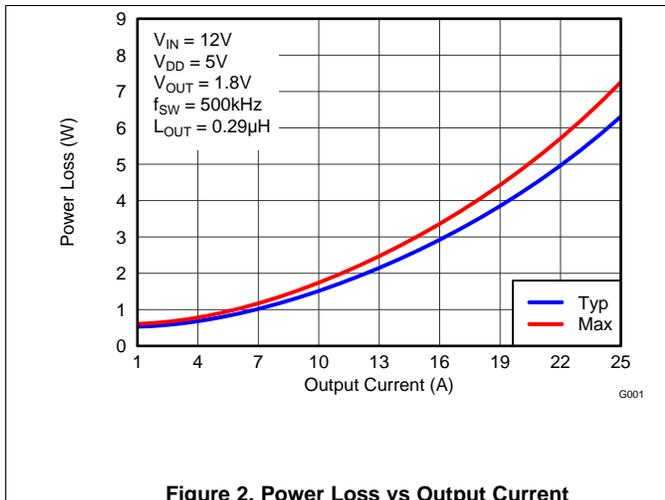

Figure 2. Power Loss vs Output Current
- Typical Power Loss at 10 A = 1.5 W (Figure 2)